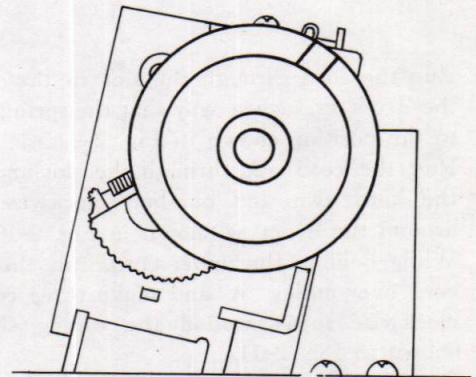

Fig. 2-7 Tuning-capacitor drive-drum installation
3. Slowly rotate the tuning-capacitor drive-drum fully counterclockwise to its maximum capacitance position. Be sure that the slot in the drive drum comes to the position as shown in Fig. 2-7.